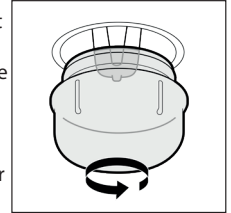

Fig. 2
2. Unscrew the glass cover in the anti-clockwise direction according to Fig. 2 and replace the bulb with a bulb of the same type and parameters.